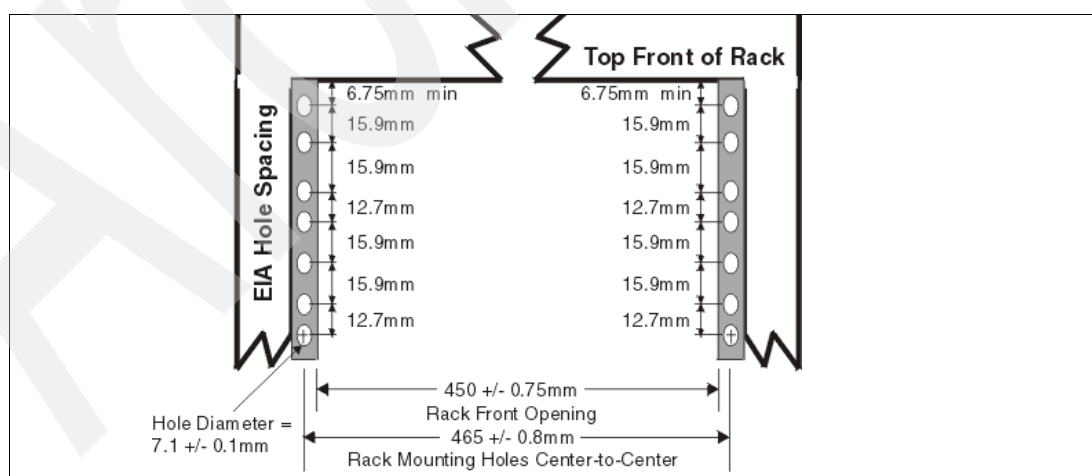
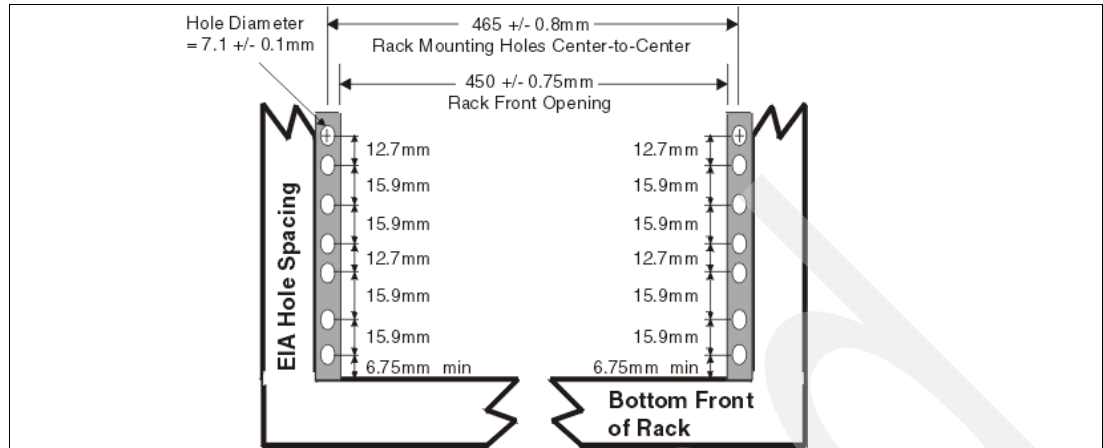

Figure 1-5 Rack specification dimensions, top front view
Figure 1-6 Rack specification dimensions, bottom front view
- The vertical distance between mounting holes must consist of sets of three holes spaced (from bottom to top) 15.9 mm (0.625 inches), 15.9 mm (0.625 inches), and 12.67 mm (0.5 inches) on center, making each three hole set of vertical hole spacing 44.45 mm (1.75 inches) apart on center. Rail-mounting holes must be 7.1 mm + 0.1 mm (0.28 inches + 0.004 inches) in diameter. See Figure 1-5 and Figure 1-6 for top and bottom front specification dimensions.